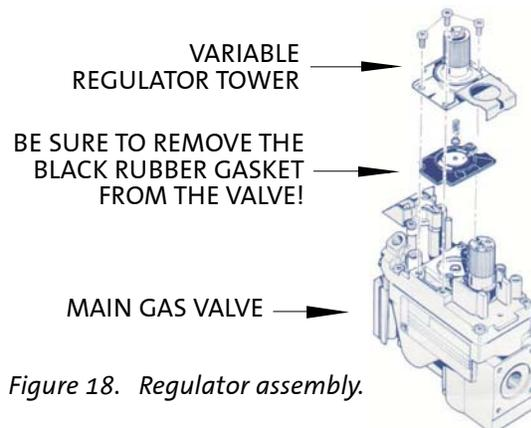

Figure 18. Regulator assembly.
12. Replace the Variable Regulator. Using a Torx T-20 screwdriver, remove the three specialty screws from the front of the valve regulator. See fig. 18.